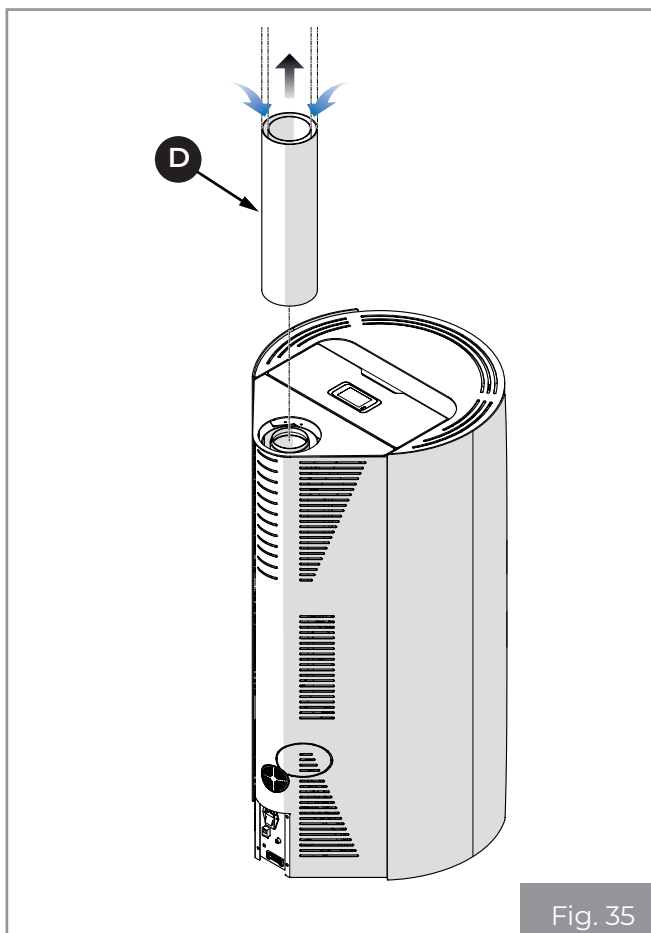

Fig. 35
- Connect the coaxial pipe **(D)** (Fig. 35).